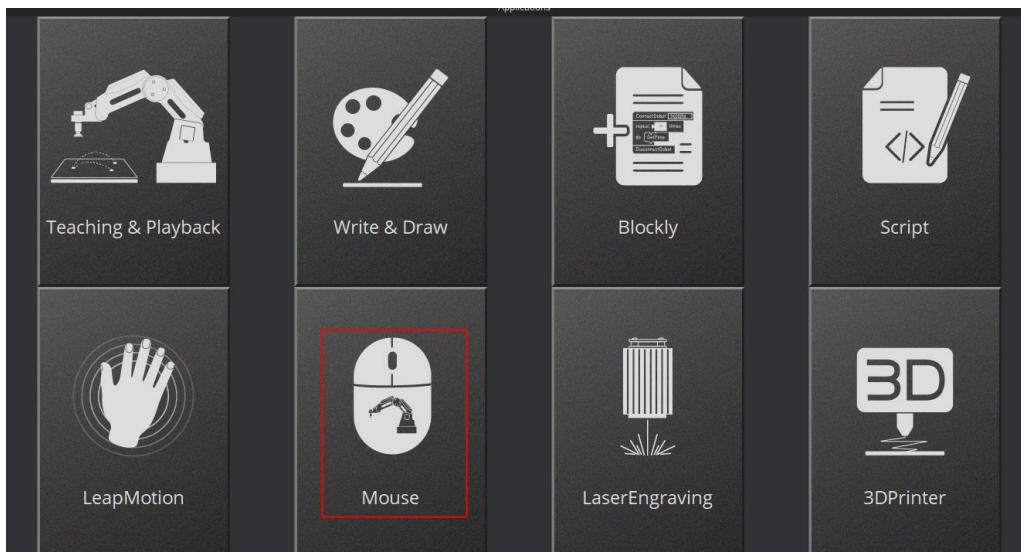

Figure 5.99 Click Mouse
**Step 1** Click **Mouse**, as shown in Figure 5.99.